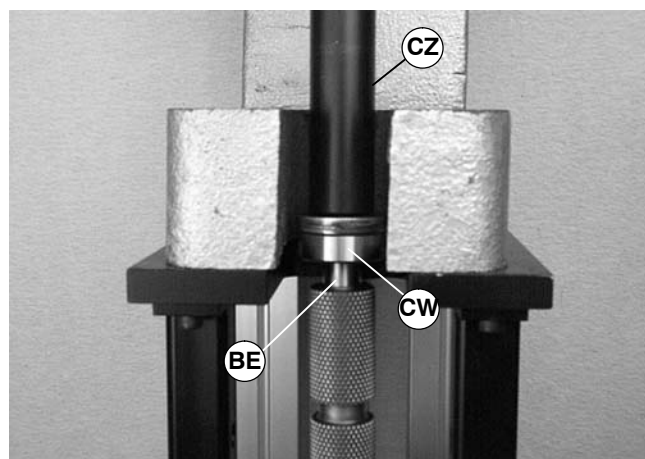

Figure 59
3. Place the shaft of tool (part # 450282) (CZ of Figure 59) over drive pulley (BE).